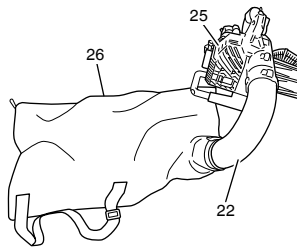

Fig. 11
Never try to connect directly to main body (25), otherwise dust bag might approach near exhaust of muffler and it might cause fires or injuries. (Fig. 11)